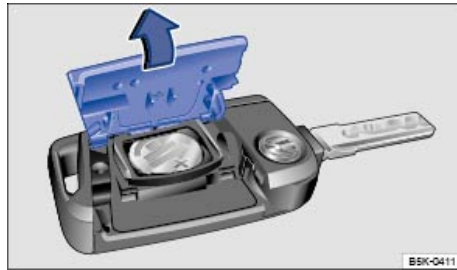

Fig. 20 Remote control vehicle key: Open battery compartment cover.
The battery is on the back of the remote control vehicle key under a cover ⇒ fig. 20.
- Remove the cover on the back of the remote control vehicle key in the direction of the arrow ⇒ fig. 20 using a suitable object such as a coin ⇒ ⓘ.
- Position the cover as shown ⇒ fig. 20 and press it down (opposite direction of the arrow) until you hear it click into place.